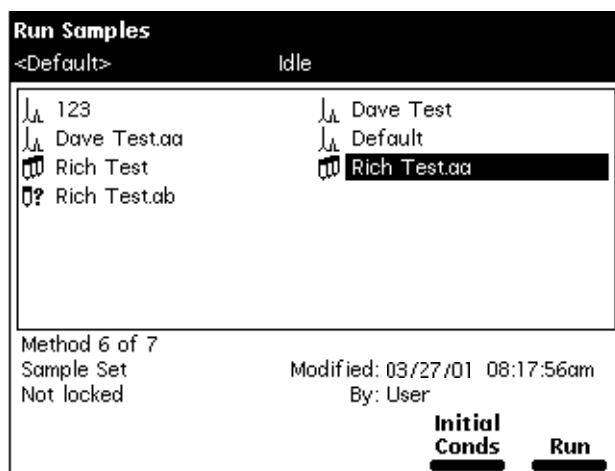

Figure 5-3 Run Samples Screen
1. Press the **Run Samples** screen key in the Main screen. The Run Samples screen appears (Figure 5-3), listing all available separation methods, sample sets, and sample templates. Table 5-1 describes the icons used in the Run Samples screen.
1. Press the **Run Samples** screen key in the Main screen. The Run Samples screen appears (Figure 5-3).
2. Press the **Run Samples** screen key in the Main screen. The Run Samples screen appears (Figure 5-3).